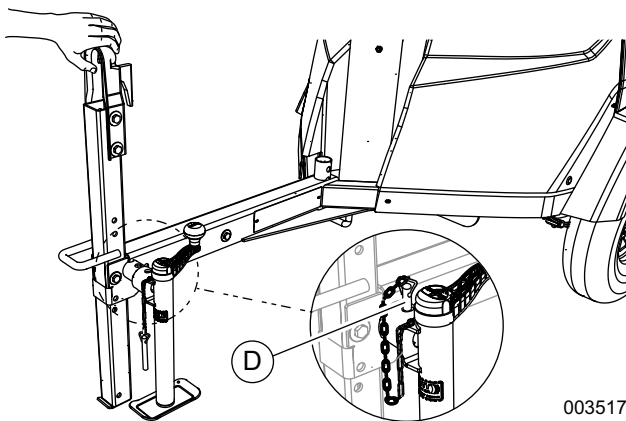

Figure 2-8. Jack Installed
4. See Figure 2-8. Install jack and secure with clevis (D).